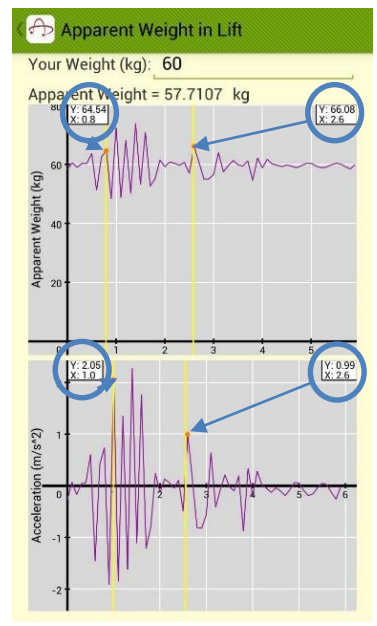

Fig 5.10
- Press “Start” to begin measurement. The apparent weight and acceleration against time will be plotted in two graphs simultaneously. The value of instantaneous apparent weight up to 4 decimal places is shown above the graph. The “zoom” function and the cursors for instantaneous readings are available on both graphs when the measurement is stopped (Fig 5.10). The “save” function is also enabled. Refer to Part 4 for more details.